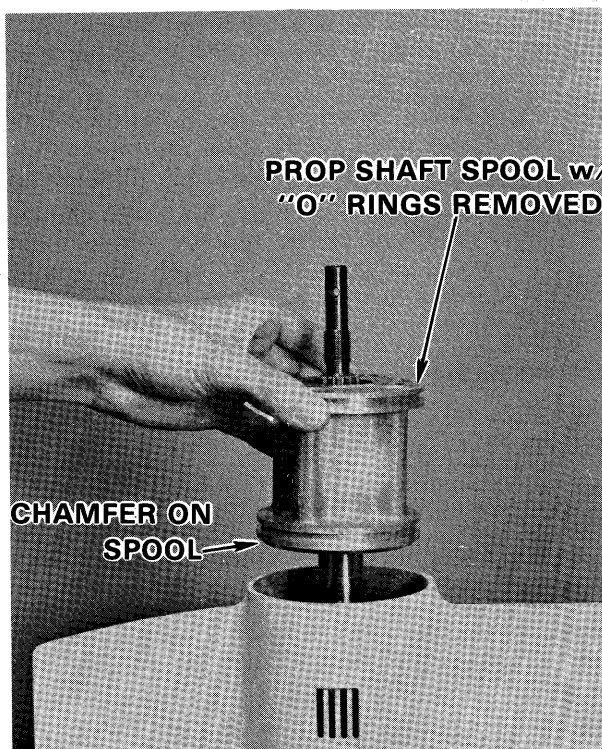

Figure 28—Installing Spool
- F. Install two (2) retaining rings in grooves in gear housing.
- G. Remove two "O" ring seals from the prop shaft spool and install spool in gear housing as shown in figure 28.